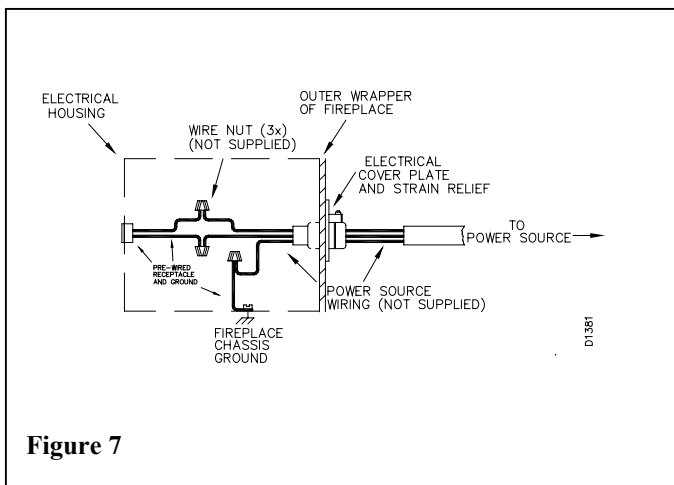

Figure 7
- iv. Slide all wiring connections in the electrical housing as shown in figure 7.